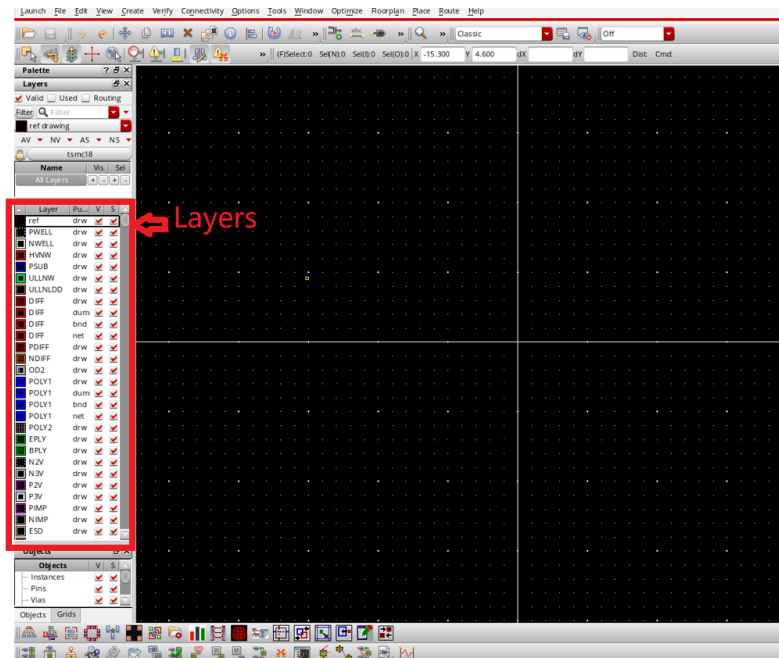

Figure 14: Layout window
- Open your designed schematic cellview (not test-bench or symbol) and start *Launch > LayoutXL*, then the layout window is presented as in Fig. 14.